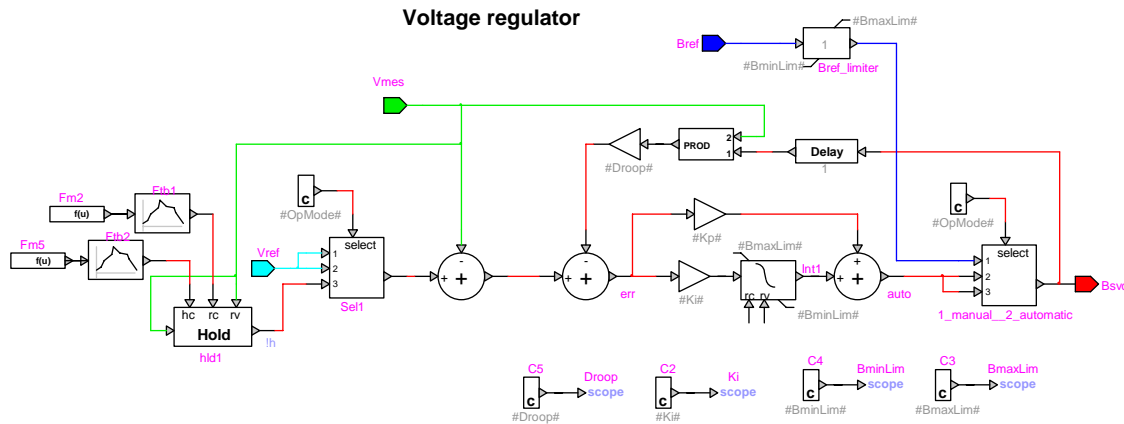

Figure 1-4 Voltage regulator block
- ❑ A voltage regulator (Voltage_Regulator, see contents in Figure 1-4) that uses the voltage error (difference between the measured voltage V_{mes} and the reference voltage V_{ref}) to determine the SVC susceptance B needed to keep the system voltage constant.